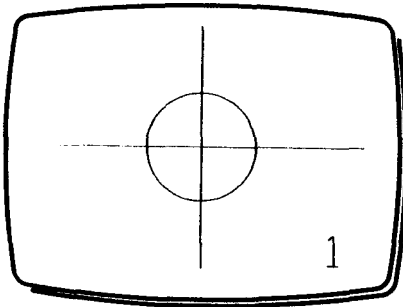

Fig 1
- 2 Draw a figure similar to (1) in Fig 1.